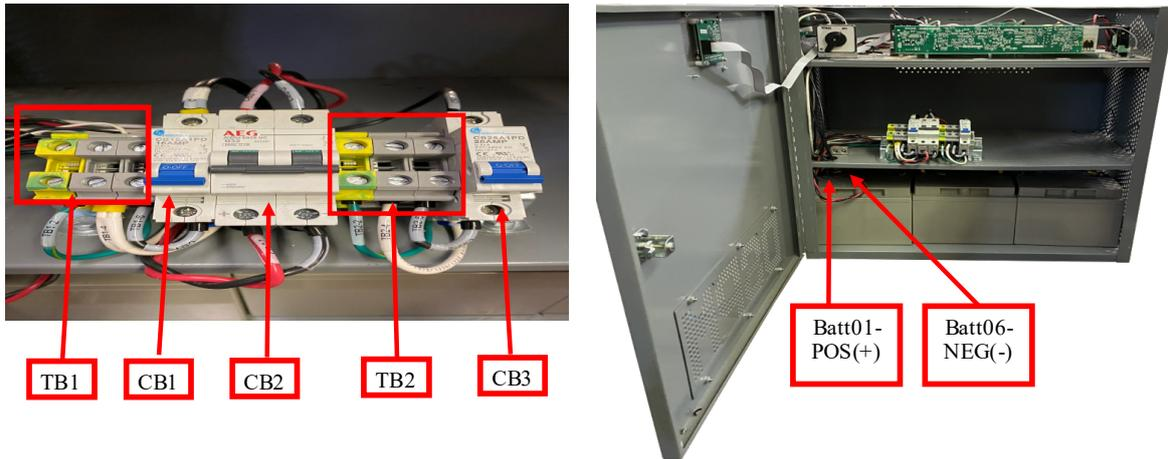

Figure 8
The AC Input, AC Output Terminals Blocks are provided for the connection of incoming power and the connection of the load (equipment) intended to be powered by the UPS. Refer to Figure 8 and Figure 13—Component layout for these connections and their locations in the UPS Cabinet.
The input power connections to the UPS come from the building supplied services. These connections are made inside the UPS cabinet (refer to Figure 8 and Figure 13, System Component Layout). The input cables are connected to a three (3) pole terminal block(TB1) which is comprised of one (1) input power, neutral, and ground connections.
The output power connections are made inside the UPS cabinet (refer to Figure 8 and Figure 13, System Component Layout). The output cables are connected to a three (3) pole terminal block (TB2) which is comprised of one (1) input power, neutral, and ground connections. The output over-current protection from the DSPM UPS System is the responsibility of the End User.